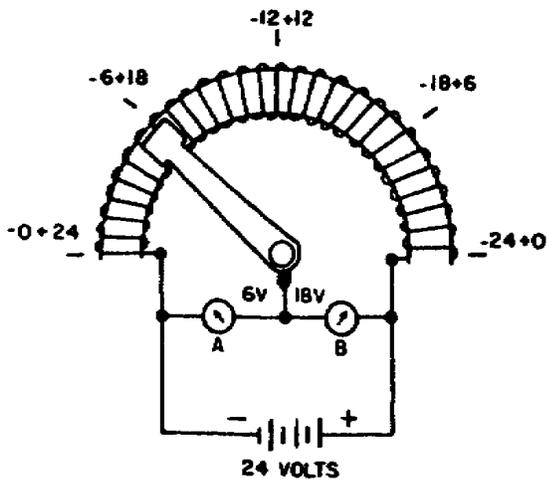

Figure 124. Potentiometer.
1. The brain of most electronic controls is a modified Wheatstone bridge. To understand the bridge circuit will review the operation of a variable resistor (potentiometer) first. One of the principal uses of the potentiometer is to take a voltage from one circuit to use in another. Figure 124 shows a potentiometer connected across a power source. The full 24 volts of the source is dropped between the two ends of the resistor; this means that 12 volts are being